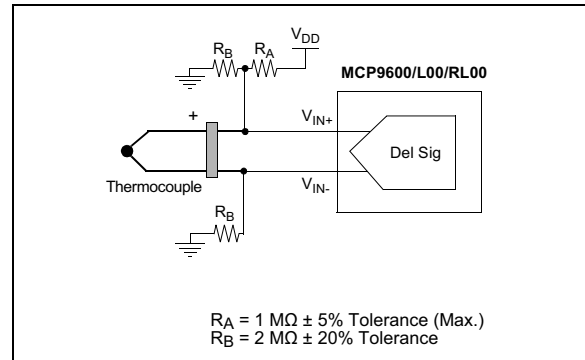

FIGURE 6-6: Adding Open-Circuit Detection Resistors (MCP9600/L00/RL00).
For MCP9600/L00/RL00 open-circuit detection, the Input Range bit (bit 4) of the STATUS register (Register 5-6), can be used to detect open-circuit conditions. This would require a few external resistors, as shown in Figure 6-6. The passive circuit does not affect the MCP9600/L00/RL00 accuracy. When the thermocouple is connected, the input Common-mode voltage is 50% of V_{DD} . When the thermocouple is disconnected, the voltage at the V_{IN+} input is 66% of V_{DD} and the voltage at the V_{IN-} input is pulled low to V_{SS} . This change forces the Input Range bit to be set.
8. Updated Figure 6-6